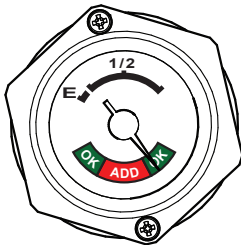

Figure 17. Propane Tank Fuel Gauge
2. Read the propane fuel gauge (Figure 17) located on top of the propane tank.